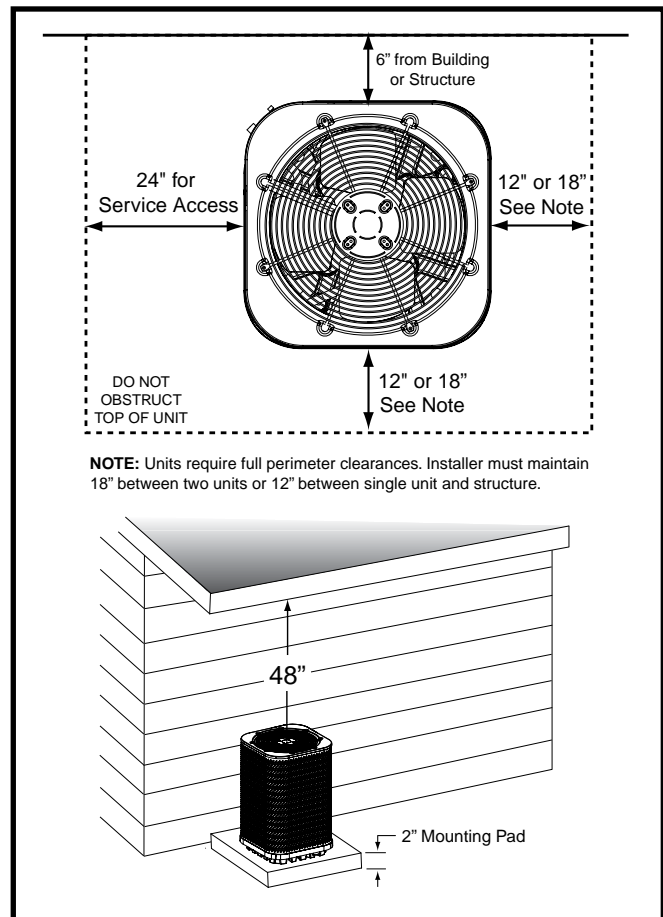

Figure 2. Clearance Requirements
- Overhead obstructions (Figure 2), poorly ventilated areas, and areas subject to accumulation of debris should be avoided.
- Sufficient clearance for unobstructed airflow through the outdoor coil must be maintained in order to achieve rated performance. See Figure 2 for minimum clearances to obstructions.
- Clearances must be in accordance with those shown in Figure 2.
- A suitable mounting pad must be provided and separate from the building foundation. The pad must be level and strong enough to support the weight of the unit. The slab height must be a minimum of 2" (5 cm) above grade and with adequate drainage. See Figure 2.